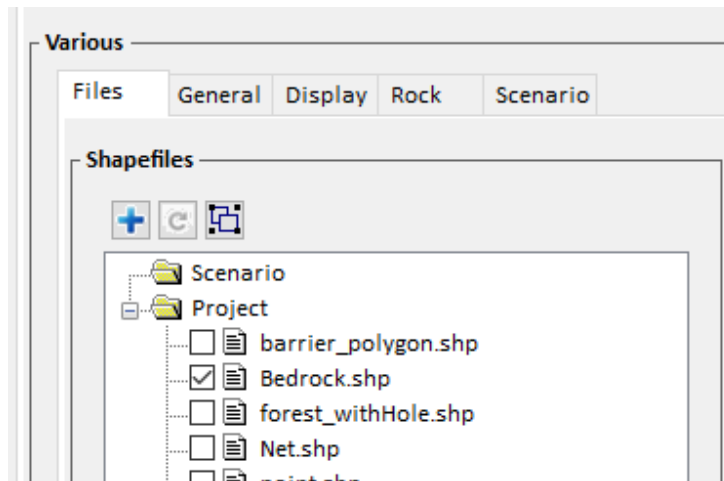

Figure 4-31: File tree with all shapefiles of a project.
2. Figure 4-31). Navigate to the desired directory, select it, and click **OK**. All shapefiles inside the selected folder are then added to the file tree in the right panel. Please make sure that the shapefiles are in the the same reference system as the DEM of the project.